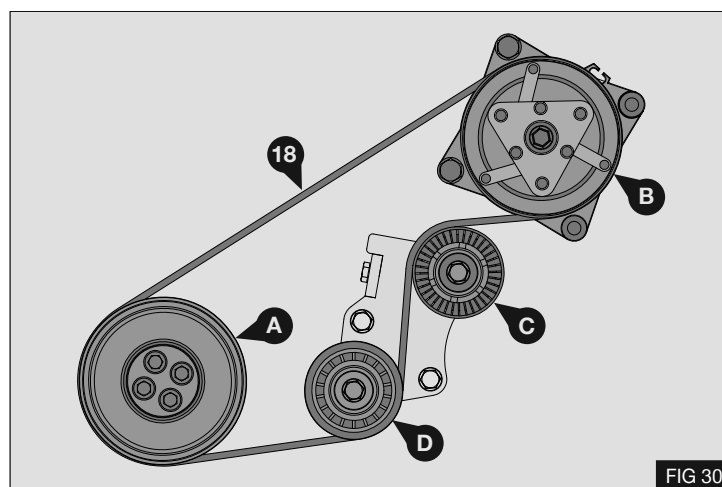

FIG 30
5. Fit the drive belt (18) to the remaining pulleys as shown opposite - Fig 30